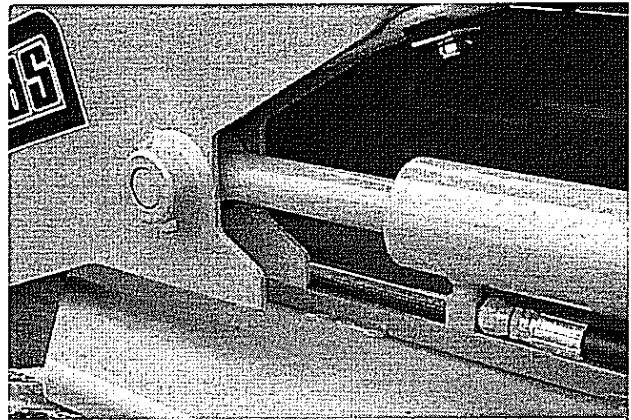

Fig. 6.2.1c
6. Remove the locknuts and lock bolts from the rod end pivot pins (Fig. 6.2.1c).